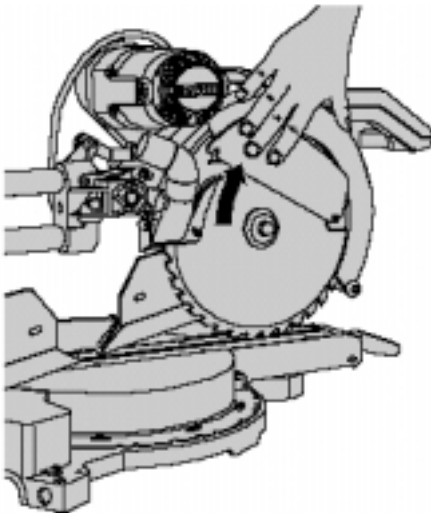

FIG. 36
- 1) Loosen the arbor cover screw, and pivot the arbor cover up, as shown in Figure 36. **NOTE:** This screw is a specific length to provide a caliper for the blade to prevent guard damage. Do not replace this screw with a different screw.